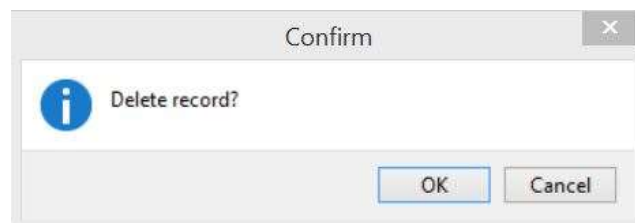

Figure 10
- To delete a unit, highlight the unit to be deleted then click on the  button and the Confirm Delete window will be displayed (**Figure 10**). Click **OK** to confirm deletion or **Cancel** to keep the record.